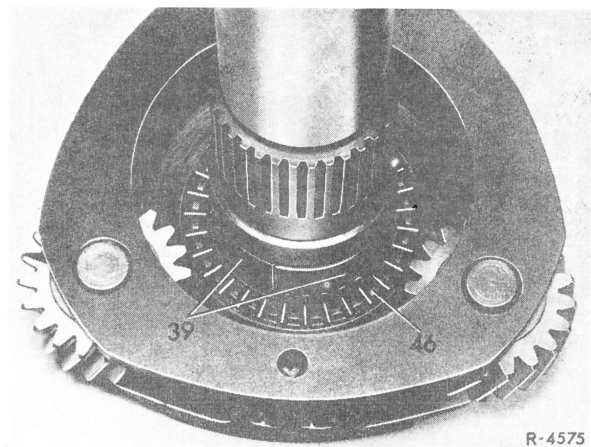

Fig. 13
16 Remove thrust washer (41) with sun gear (40), as well as needle bearings (39) and (46) (Fig. 13 and 14).
17 Insert axial bearing (46) and split needle bearing (39) coated with grease (Fig. 13).